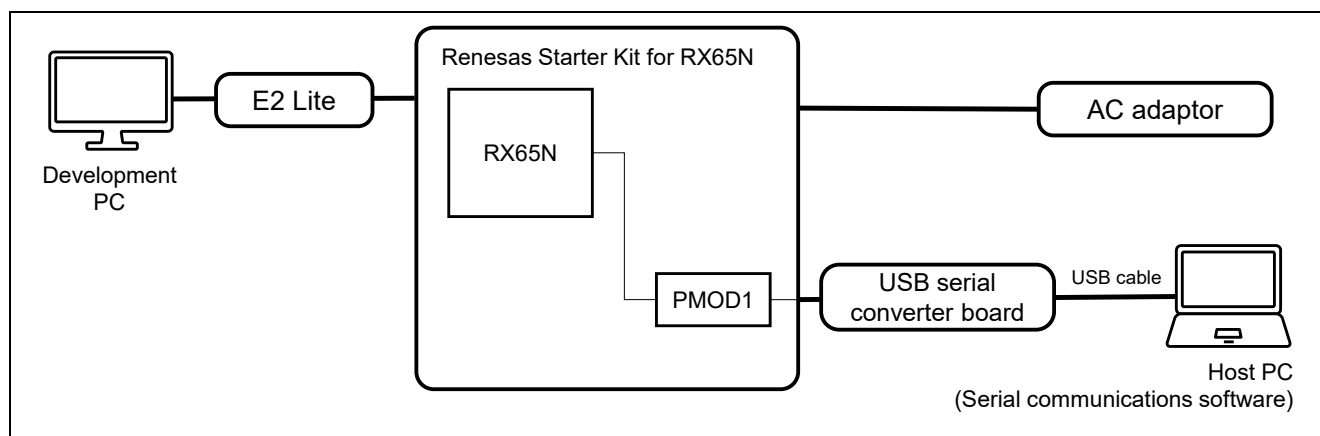

Figure 4.1 RSK RX65N Device Connection Diagram
1. Connect the PC USB port, USB serial converter board, and PMOD1 on the RSK board as shown in Figure 4.1, RSK RX65N Device Connection Diagram.